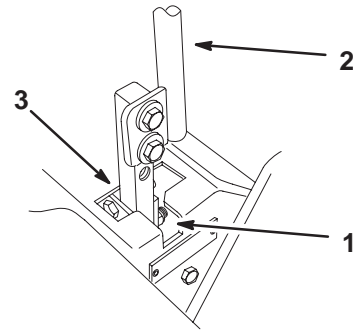

Figure 58
7. Check where the control lever is relative to notch in console (Fig. 58). It should be centered allowing lever to pivot outward to the neutral lock position.
9. Apply slight rearward pressure on the motion control lever, turn the head of the adjustment bolt in the appropriate direction until the control lever is centered in neutral lock position (Fig. 58).